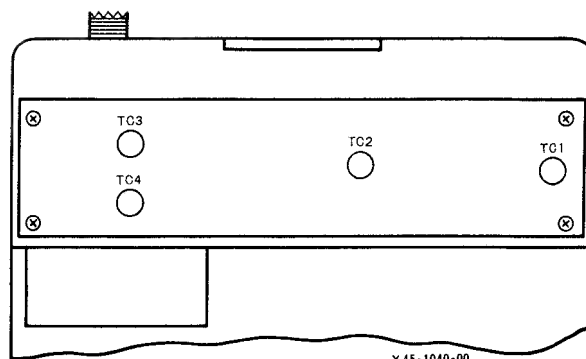

FIG. 10 PA UNIT
- (2) Adjust TC1 on the final unit (Fig. 10) for maximum current. Then, adjust TC16 on the synthesizer unit (Fig. 2) for maximum output.
- (3) Obtain a maximum output by adjusting TC2, TC3 and TC4 on the final unit (Fig. 10). Be sure that TC4 is turned in the direction where the current is decreased while the output remains unchanged.